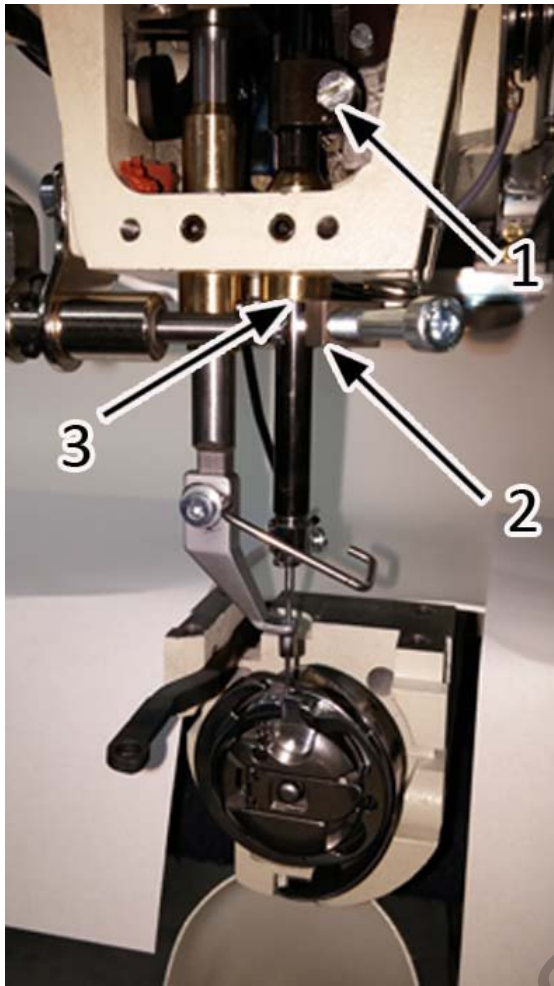

Fig. 21
- D. Loosen the screw (1), Fig. 21 now and move with the needle bar so that the edge of the hook, which is in the axe of the needle, is placed just above of lower edge of hook relief (1), Fig. 21. Tighten screw (1).